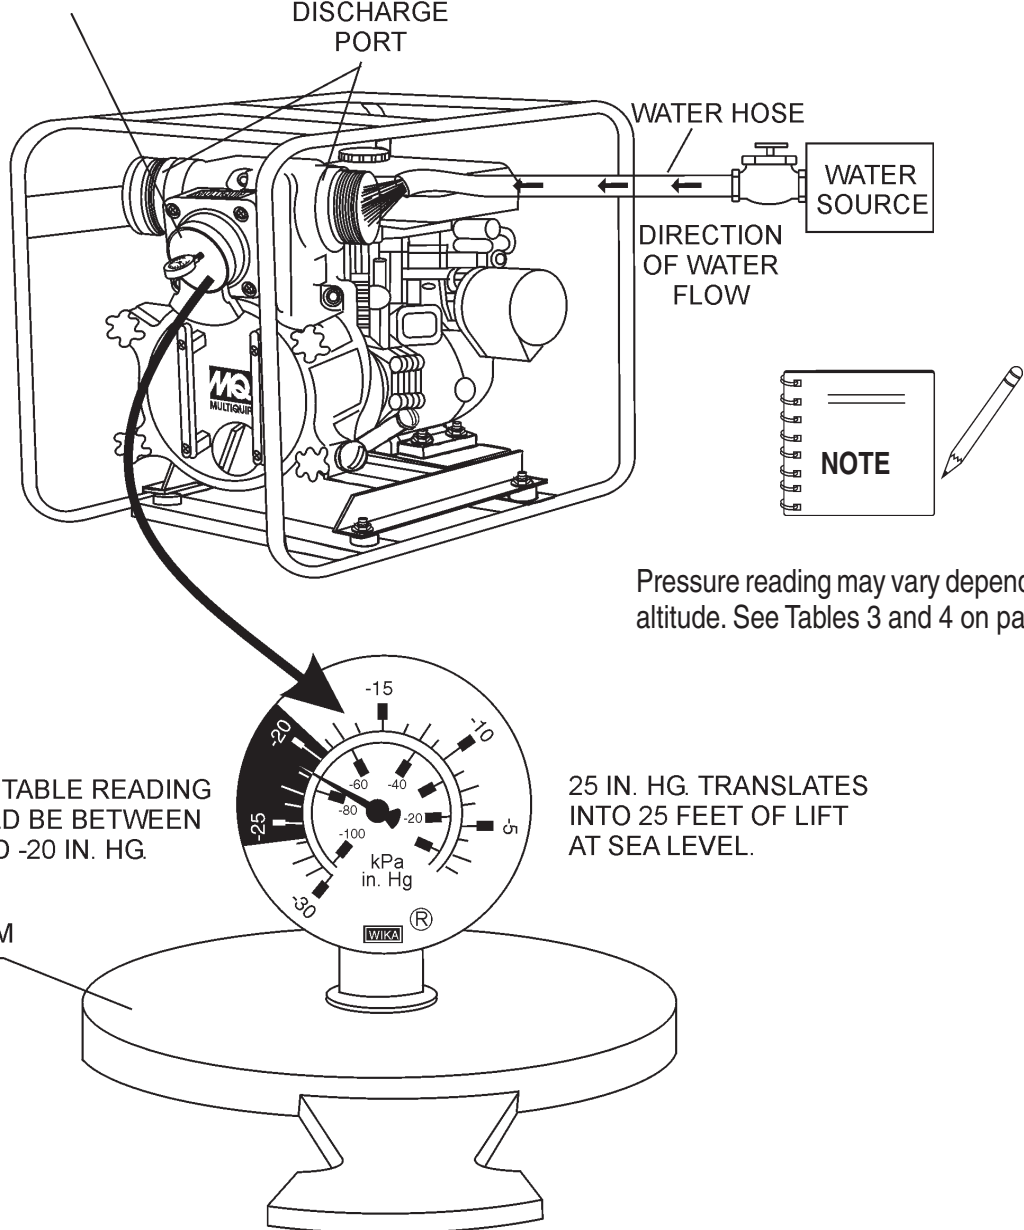

Figure 13. Pump Vacuum Tester
3. As shown in Figure 13, place a water hose inside the discharge opening of the pump, and turn on the water. This flow of water into the discharge opening will **prevent** the pump from running dry.
4. Place the **Pump Vacuum Tester** (P/N 7000030) over the pump suction (inlet) opening (Figure 13) with the vacuum gauge facing upwards. It may be necessary to apply a small amount of water around the rubber seal of the vacuum tester to make a good suction fit.